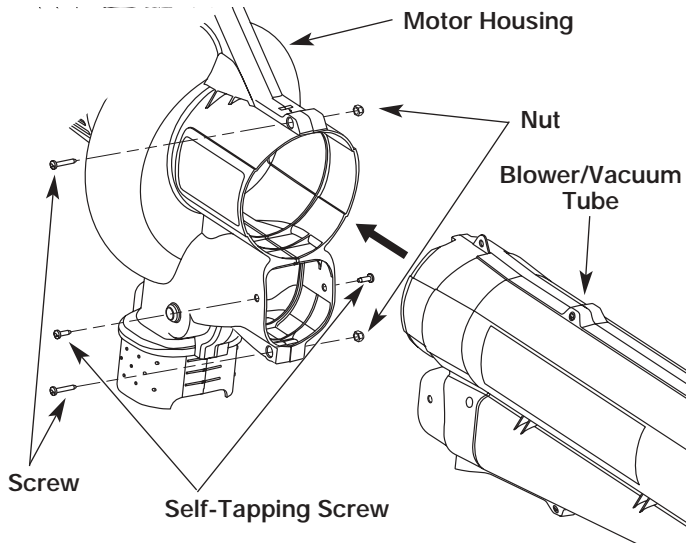

Fig. 1
2. Insert the blower/vacuum tube all the way into the opening on the motor housing until the holes in the tabs on the blower/vacuum tube align with the screw holes in the housing (Fig. 1).
2. Remove the 2 (two) screws and nuts holding the blower/vacuum tube on the housing (Fig. 1).